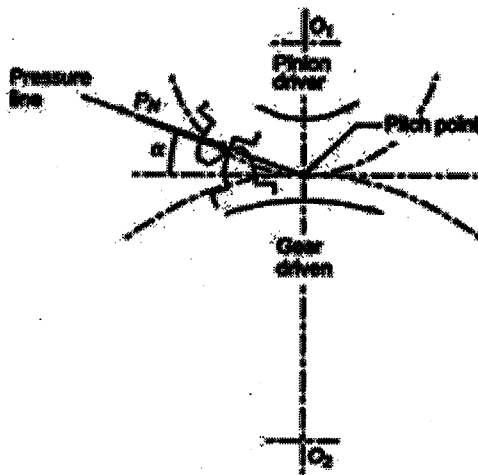

FIGURE-1.
(ii) In two meshing spur gears as shown in **FIGURE-1**. Calculate useful component force and separating component of force. (4)